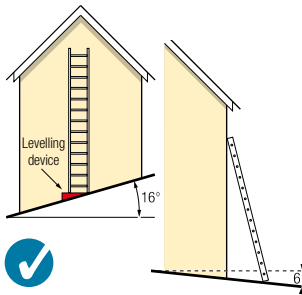

Figure 3 Ladder showing maximum angles at 16° on a slide slope and 6° on a back slope
- side slope 16° – but the rungs still need to be levelled (see Figure 3);
- back slope 6° (see Figure 3);